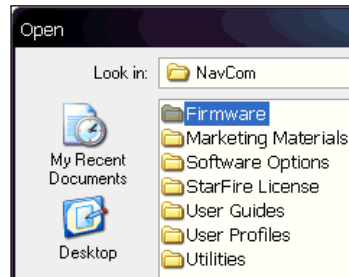

Figure 20: Firmware Folder
50. Browse to the NavCom\Firmware folder on the PC (refer to Figure 20).
51. Select the appropriate *unified* file to upload and click  (see Figure 20).